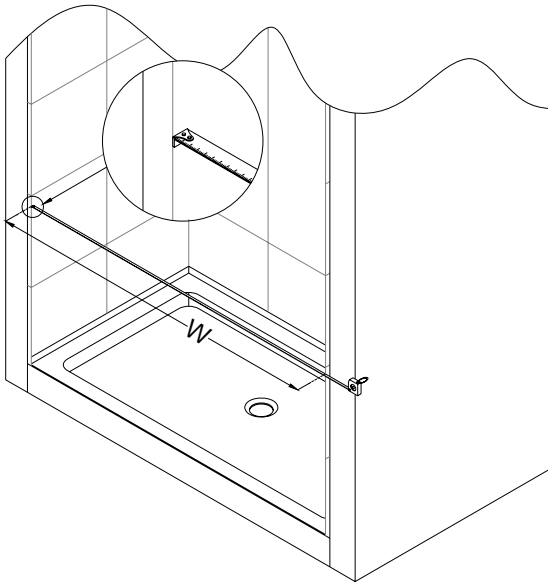

Fig 1
1. Measure the distance of two walls, distance as W. See Fig 1 for details.